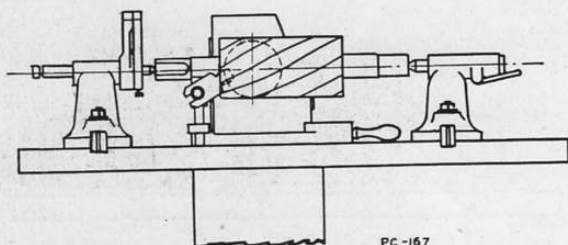

Fig. 15
9. Unlock the clearance setting dial and read the desired clearance angle by lowering the wheel head and rotating the cutter by hand against the tooth rest. (Fig. 15)
10. Remove the setting dog and grind, holding the cutter by hand against the tooth rest. (Fig. 15)